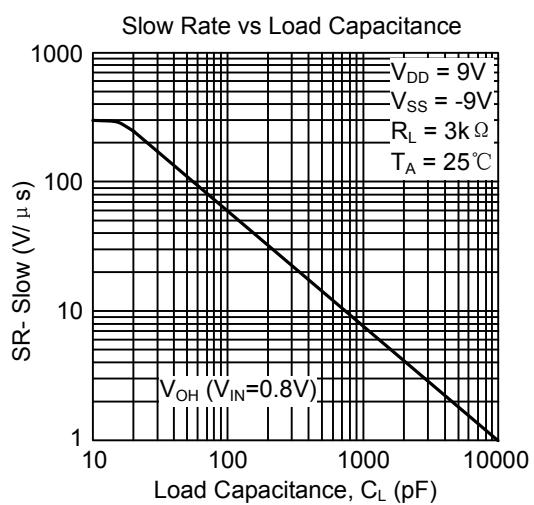

Figure 10
**: Refer Figure 10 to select the correct values for the loading capacitors (C_1 , C_2 , and C_3), which are required to meet the RS-232 maximum slew-rate requirement of $30V/\mu s$. The value of the loading capacitors required depends upon the line length and desired slew rate, but typically is 330 pF .